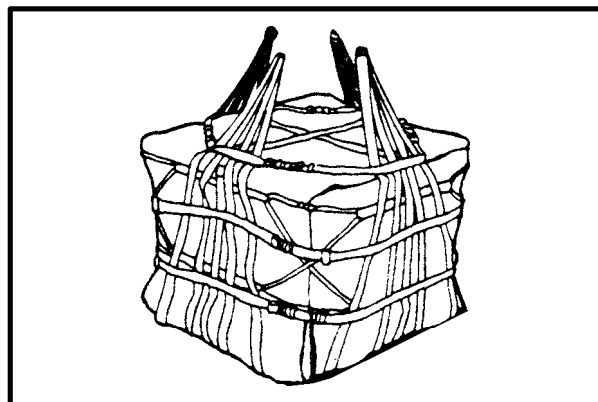

*Figure 8-4. Securing the Strap*
**e. Closing the Sling Assembly.** Route the 188-inch strap over top of the load. Route the free end under the floating safety bar (smooth side) and back over the friction adapter (rough side). Tighten the strap, fold in 4 to 5 inch loops, and secure (Figure 8-4).